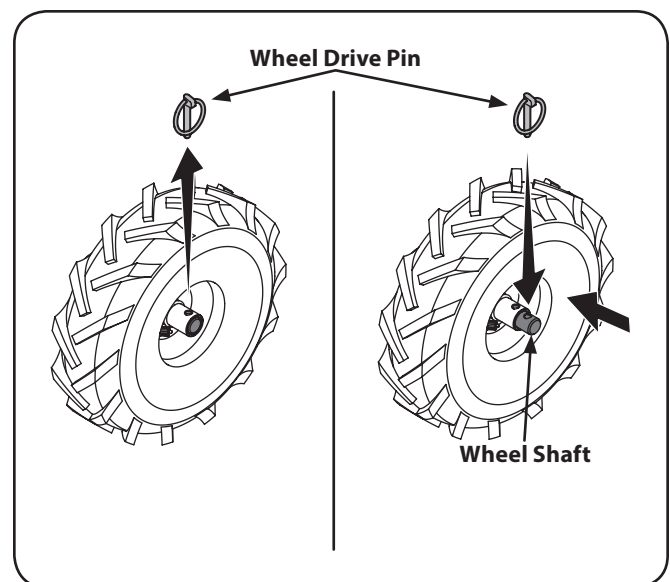

Figure 3-5
- Remove the wheel drive pin from the wheel hub and wheel shaft. See Fig. 3-5.
- Slide the wheel fully inward on the wheel shaft . Reinstall the wheel drive pin through the wheel shaft only (not through the wheel hub). See Fig. 3-5. The wheel should now spin freely (freewheel) on the wheel shaft. Repeat with the other wheel.